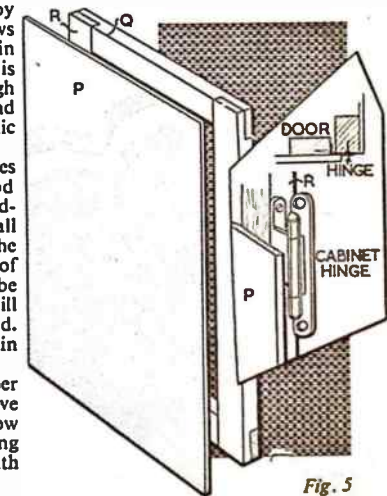

Fig. 5
The door consists of a frame, pieces (R) and (Q) of 1 in. by 1 1/2 in. wood halved together and covered with hardboard, which overlaps about 1/4 in. all round. The diagram in Fig. 5 shows the construction and also shows a detail of the special cabinet hinge which may be used. If you examine the hinge you will see quite clearly how it may be fixed. Hobbies No. 711 handle is screwed in place and a ball catch fixed inside.